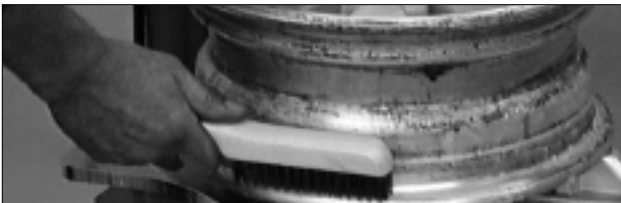

Figure 13 - Inspect and Clean the Wheel
1. Inspect the wheel closely for damage. Clean the wheel and remove any light corrosion or rubber residue (Figure 13). Do not attempt to service heavily corroded wheels.
2. Inspect tire for damage, paying close attention to the beads. Verify size match between tire and wheel (Figure 13).